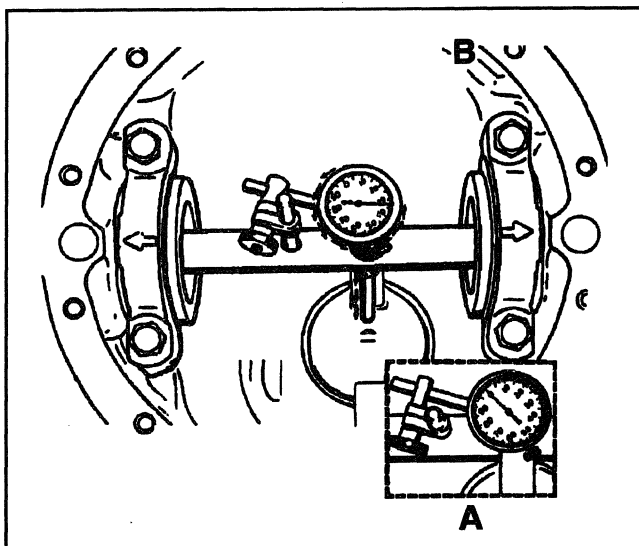

Figure 14—Checking Pinion Depth
12. Set the dial indicator at zero. Push the indicator down on the indicator shaft until the needle rotates approximately 3/4 of a turn to the right. Tighten the dial indicator in this position (Figure 14).
EXAMPLE: If the indicator needle moved counter-clockwise 1.70 mm (0.067 inch) to a dial reading of 0.84 mm (0.033 inch) as shown in Figure 14, record the dial reading of 0.84 mm (0.033 inch), not 1.70 mm (0.067 inch).